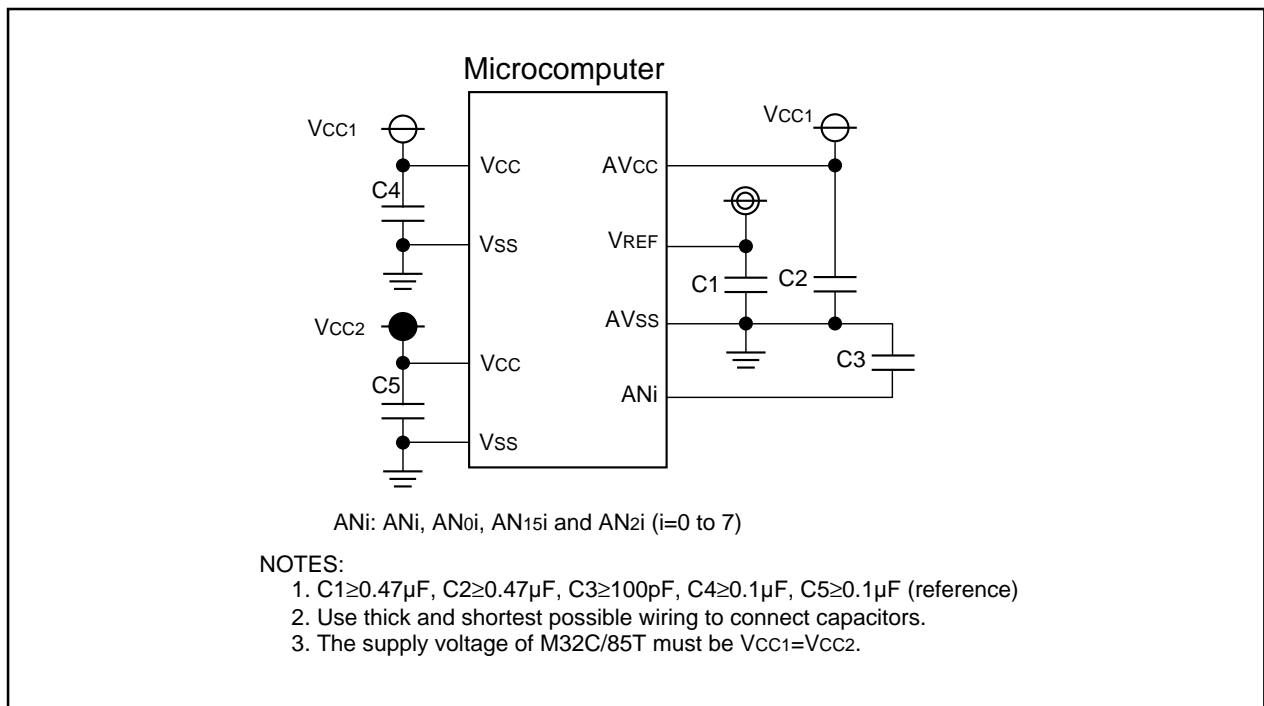

Figure 27.4 Use of Capacitors to Reduce Noise
- Insert capacitors between the AVCC pin, VREF pin, analog input pin ANij (i=none, 0, 2, 15; j=0 to 7) and AVSS pin to prevent latch-ups and malfunctions due to noise, and to minimize conversion errors. The same applies to the VCC and VSS pins. Figure 27.4 shows the use of capacitors to reduce noise.